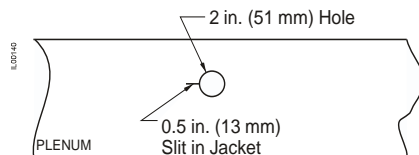

FIG. 2
STEP 2. Cut a ½-inch (13 mm) slit in the plenum jacket (Fig. 2).